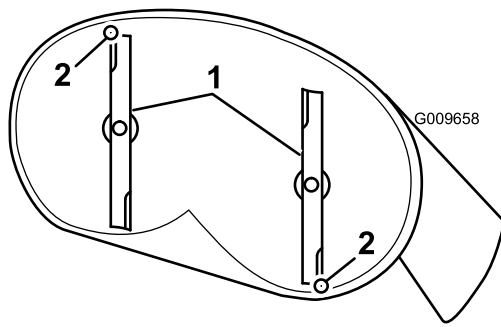

Figure 52
- Carefully rotate the blades so they are facing front to rear (Figure 52).
5. Measure from the tip of the front blade to the flat surface and the tip of the rear blade to the flat surface (Figure 52). If the front blade tip is not 1/16-5/16 inch (1.6-7.9 mm) lower than the rear blade tip, adjust the front locknut.
8. After adjustment, check the front-to-rear slope again. Continue adjusting the nut until the front blade tip is 1/16-5/16 inch (1.6-7.9 mm) lower than the rear blade tip (Figure 52).